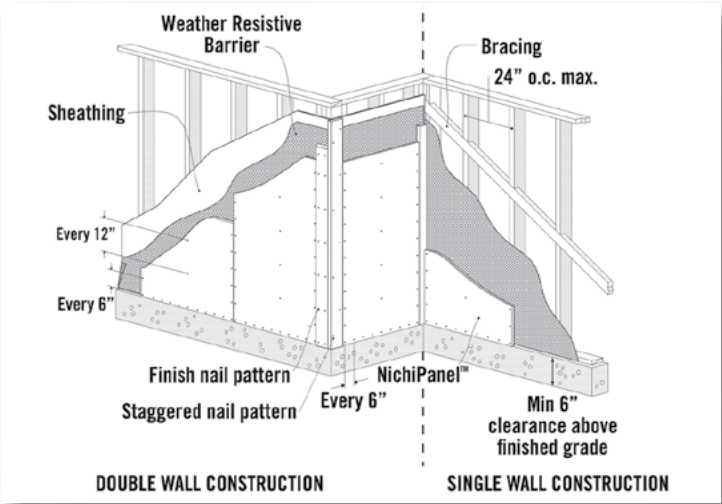

Fig. 11.1
- NichiPanel™ can be installed directly on braced wood or steel stud (20GA or heavier) construction spaced at a maximum of 24" o. c. or over sheathing with vertical solid wood or steel backing. (Fig. 11.1)